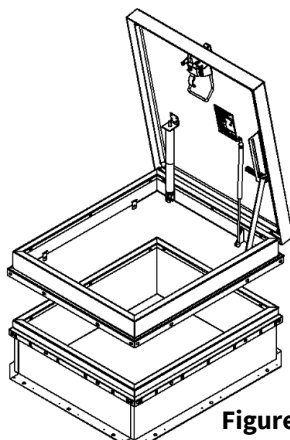

Figure 3
3. Place Retrofit Roof Hatch on top of the existing roof hatch curb. **(Figure 3)**